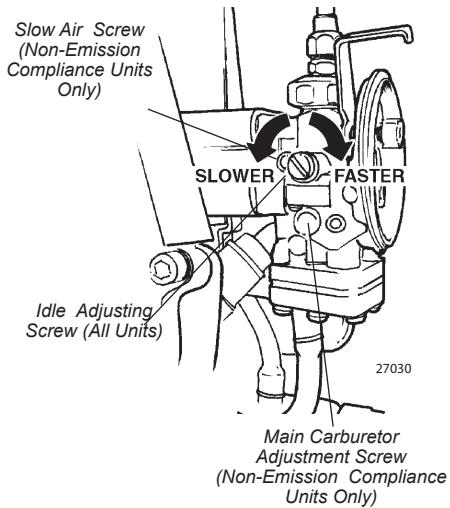

Figure 22
2. If the cutting attachment rotates at engine idle, reduce idle speed by turning the idle adjustment screw counter clockwise. See Figure 22.